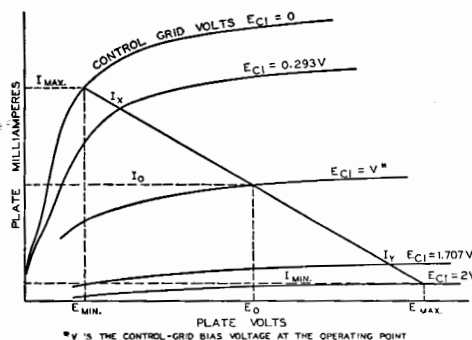

Fig. 13
**Power output for pentodes** as Class A amplifiers can be calculated in much the same way as for triodes by means of the following formulas and a special plate characteristic family of curves, illustrated in Fig. 13.